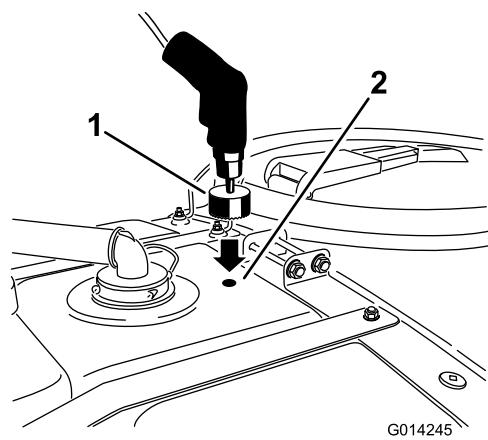

Figure 12
4. Use a 4.5 cm (1-3/4 inch) hole saw to drill a hole at the drill mark (Figure 12).